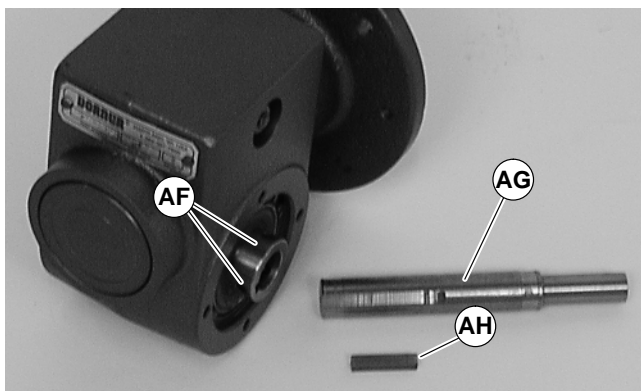

Figure 17
6. Remove two (2) screws (AC) and detach output shaft cover (AD).
7. Remove gear reducer output shaft key (AE).
8. Loosen six (6) set screws (AF of Figure 17). Remove drive shaft (AG) and key (AH).
10. Replace the original shaft (AG of Figure 17) and key (AH) into new gear reducer. Tighten set screws (AF) to 3 Nm.